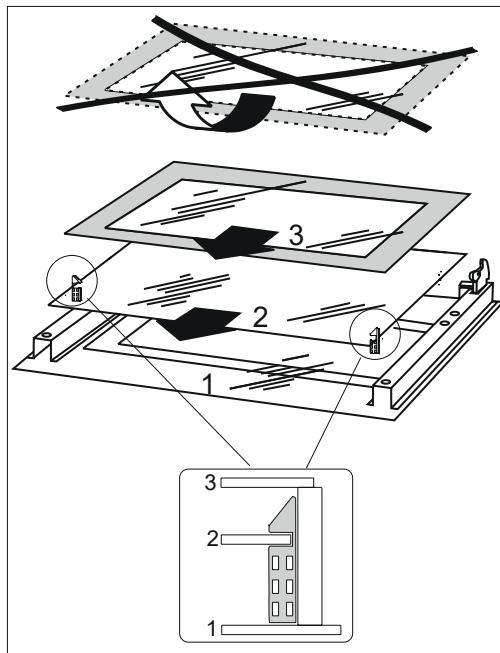

Fig. 6
3. Remove the inner glass from the clips at the bottom of the oven door (Fig. 6 and 7).